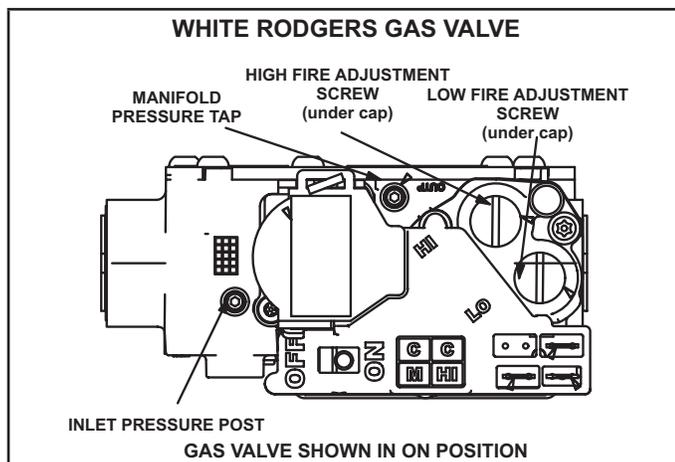

FIGURE 19
The two-stage gas valve (FIGURE 19) is internally redundant to assure safety shut-off. If the gas valve must be replaced, the same type valve must be used. 24VAC terminals and ON/OFF switch are located on the valve. A wire harness connects the terminals from the gas valve to the electronic ignition control. 24V applied to the terminals energizes the valve.
- 6 - Turn switch on gas valve to OFF. Do not force. See FIGURE 19.
- 8 - Move switch on gas valve to ON. Do not force. See FIGURE 19.
- 1 - Connect test gauge to manifold pressure post (FIGURE 19) on gas valve.